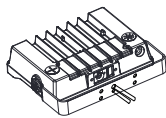

Fig 8.2
- Step 2: Put the core wire through the waterproof rubber plug, through the bracket fixing seat and match with the waterproof rubber plug. Figure 8.2